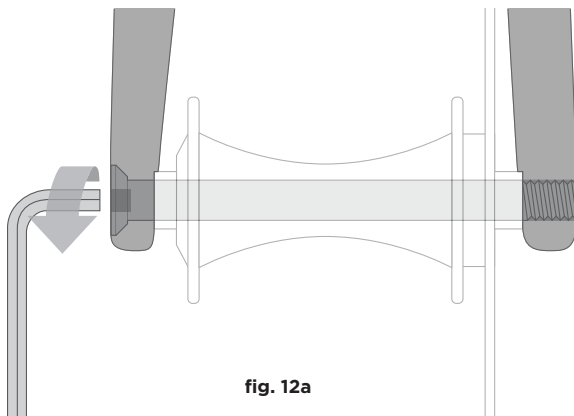
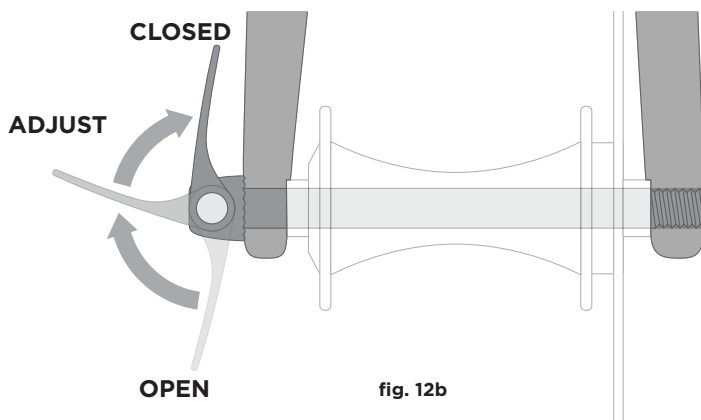

fig. 12a
fig. 12b
#### **a. Adjusting the thru axle mechanism (fig. 12a & 12b)**
The thru axle is inserted through the unthreaded hole in the frame or fork's dropout, through the wheel hub, and is threaded directly into the opposing dropout by tightening the thru axle. Common installation methods may use an Allen hex key (fig. 12a) or a cam lever (fig. 12b). Please refer to the manufacturer's instructions for specific information about your thru axle's operation, including correct torque specifications or lever adjustment information.
(4) If your bike has a thru-axle front wheel mounting system (figs. 12a & 12b), loosen and remove the thru axle according to the manufacturer's instructions, then remove the front wheel.
(c) With a thru axle system, tighten the thru axle (figs. 12a & 12b) according to the manufacturer's instructions.
(5) If your bike has a thru-axle rear wheel mounting system (figs. 12a & 12b), loosen and remove the thru axle according to the manufacturer's instructions.
(6) Push the rear wheel forward far enough to be able to remove the chain from the rear sprocket, then lift the rear wheel off the ground a few inches and remove it from the rear dropouts.